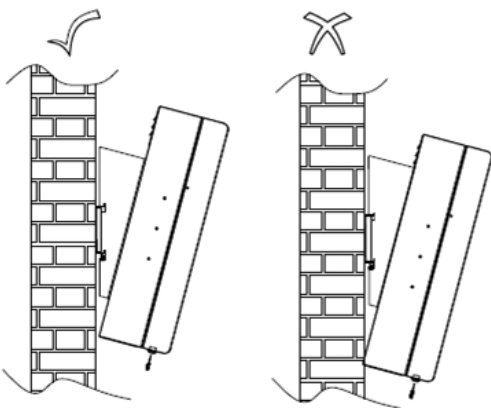

Figure 15
STEP 21: After making sure the enclosure brackets and wall plate are securely tightened, steadily lift the enclosure onto the wall plate and fit (Figure 15), ensuring wall brackets are slotted over the wall plates top lip.
(NOTE: A 15 degree bracket must not touch the wall, remove and adjust brackets if necessary (Figure 15))